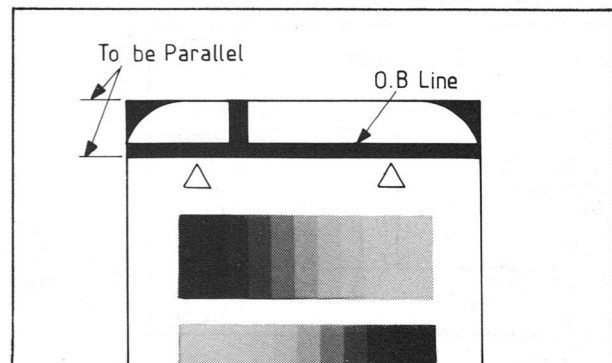

Fig 7.15
- (1) Connect the 33kΩ R jumper across resistor R33 on the Def and Power PCB (CA 4501A) to lower the vertical centre of the vidicon raster
- (2) Shoot the white pattern (in this instance both the pattern and camera body must be level)
- (3) Check that the optical black (OB) line of the vidicon is horizontally aligned with the frame display of the pattern (or underscanning raster of the TV monitor) (See Fig 7.15)
- (4) If the OB line is not horizontally aligned, loosen the screws securing the vidicon and turn the vidicon. When satisfactory, retighten the screws
- (5) Remove the R jumper.